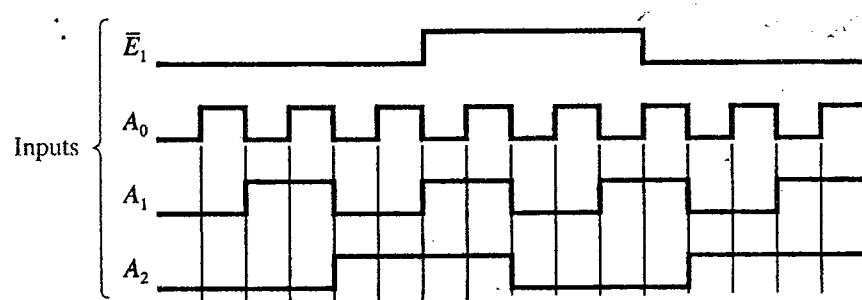

Figure 3b
- (e) Sketch the output waveform of the 74138 in Figure 3a. The input waveforms to the 74138 are given in Figure 3b.